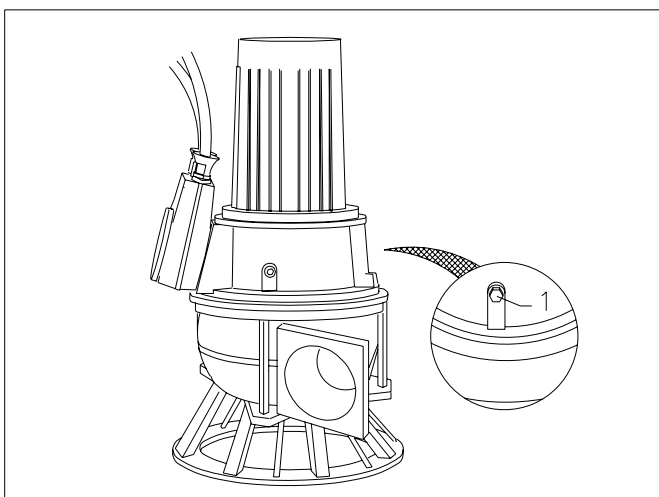

Fig. 7.6
Put the pump in a vertical position. Unscrew the M20 oil plug (1) which can be found at the opposite side of the cable entry box (see fig. 7.6).
Place the pump in vertical position and unscrew the M20 plug (Fig.7.6).